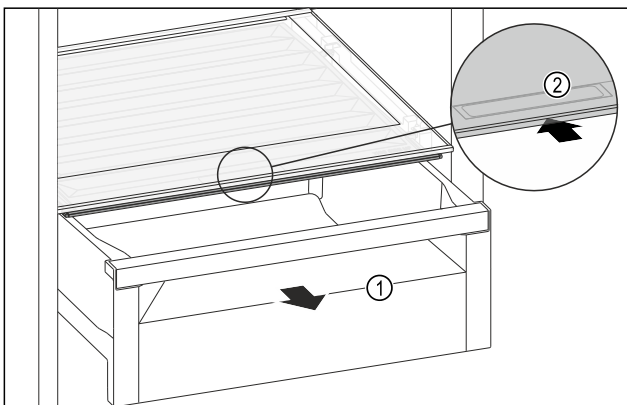

Fig. 221
- ▶ Pull out the drawer Fig. 221 (1).
- ▶ Grasp the recessed grip Fig. 221 (2) on the compartment lid and push the compartment lid backwards at the same time.